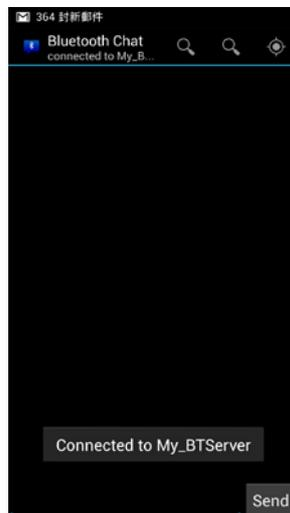

Figure 37 Connection to the LinkIt ONE Bluetooth server confirmed
- 2) Select **My_BTServer** and **Connected to My_BTServer** will display, see Figure 37.